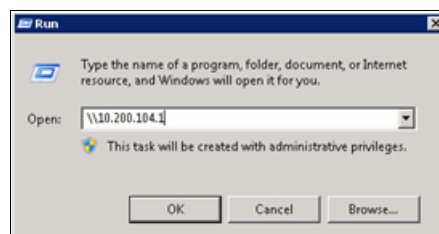

Figure 4-18 FSI IP
2. The Run window opens (Figure 4-18). In the **Open** field, enter \\<FSI_IP> (or the ProtecTIER server name) and click **OK**.